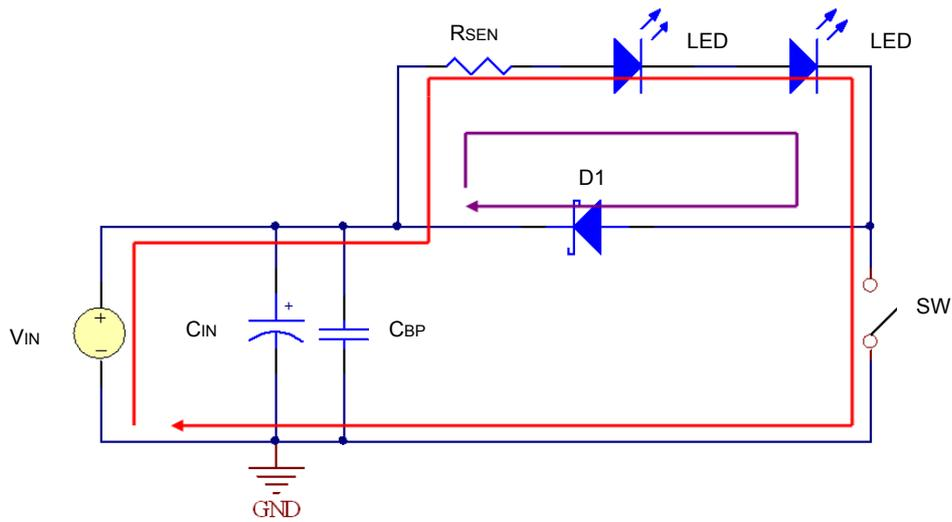
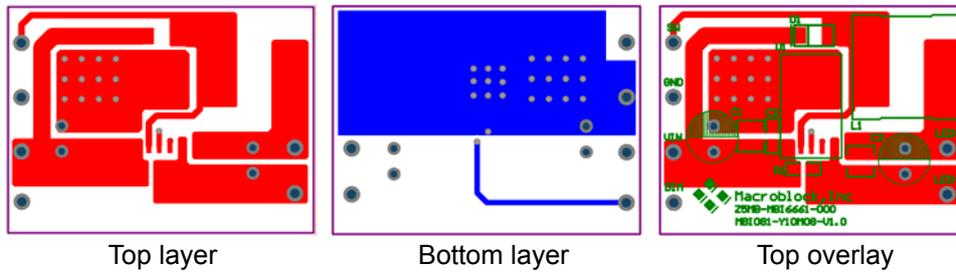

Figure 5. The sketch of power loop
Figure 6. The layout diagram of MBI6661GSD
11. When switch is on/off, the direction of power loop should keep the same way to enhance efficiency. The sketch is shown as Figure 5. Where the current flows clockwise on the red path during MOSFET turns on; the current flows clockwise on the purple path during MOSFET turns off. Figure 6 is the recommended layout diagram of MBI6661GSD.